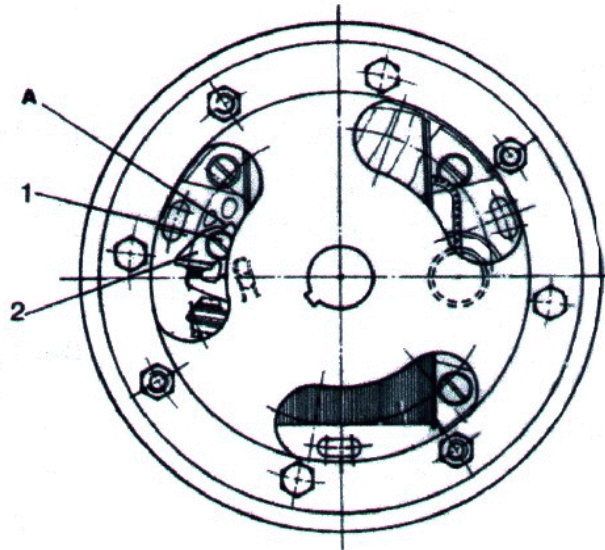

Figure 8 - Fly Wheel Magneto
Remove the pulley wheel and rotate the crank shaft till the breaker point gap is at its largest. Measure the gap with a feeler gauge: it should be 0.45 mm. The gap can be adjusted by loosening screw (1, Fig. 8) and turning point (2) from notch(A) with a screwdriver. Tighten screw (1).